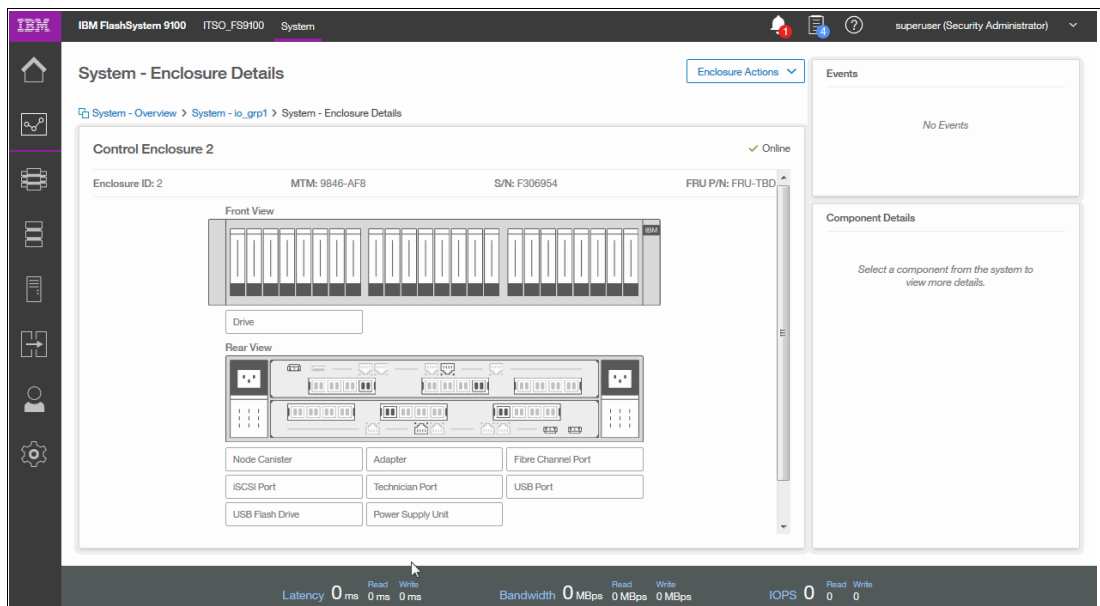

Figure 5-44 Control Enclosure 2 details
- Click > on Control Enclosure 2 to view enclosure details, as shown in Figure 5-44.